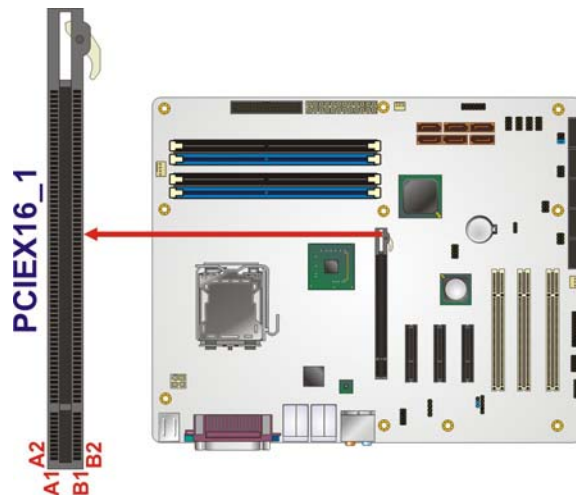

Figure 4-13: PCIe x16 Connector Location
- CN Location:** See **Figure 4-13**